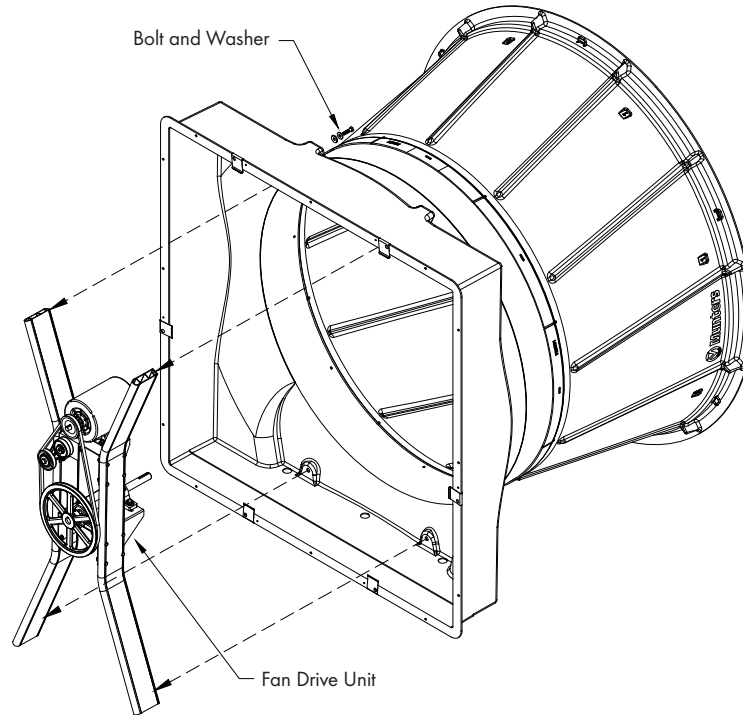

Figure 3
Disconnect the electrical power leads from the motor. Remove the (4) bolts and (8) washers holding the fan struts to the fan housing and remove the fan drive unit in one piece, this includes the struts, motor base, motor, bearing base and bearings. Make sure that all the washers are removed from the fan housing in all 4 locations on the outside and around the 2 lower holes on the inside of the fan housing. See Figure 3.